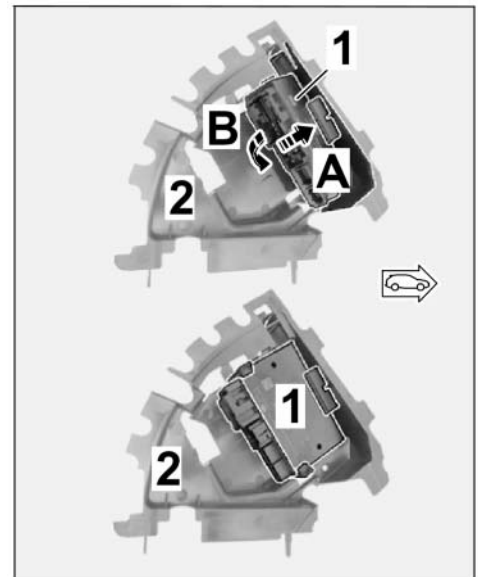

Figure 11
2.4.5 Install trailer hitch control unit into the bracket (⇒ *Figure 11*).